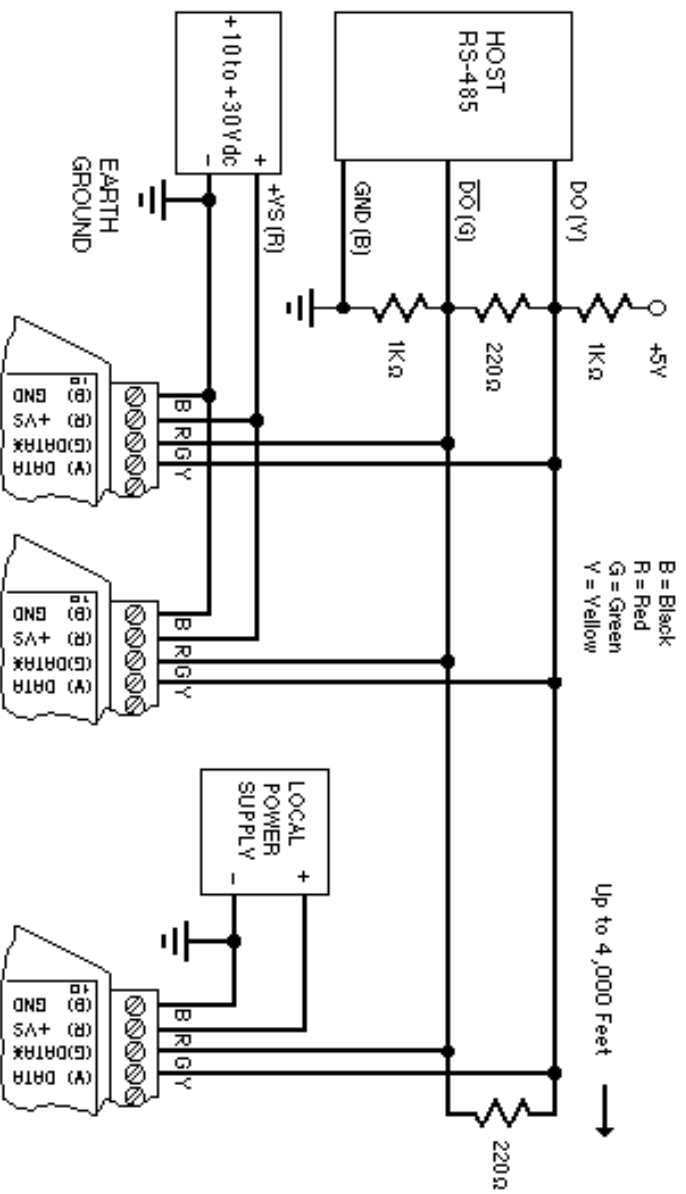

Figure 3.2 RS-485 Network.
Figure 3.2 illustrates the wiring required for multiple-module RS-485 system. Notice that every module has a direct connection to the host system. Any number of modules may be unplugged without affecting the remaining modules. Each module must be setup with a unique address and the addresses can be in any order. All RS-485 modules must be setup for no echo to avoid bus conflicts (see Setup). Also note that the connector pins on each module are labelled with notations (B), (R), (G), and (Y). This designates the colors used on standard 4-wire telephone cable:
of time when all stations on the line are in receive mode. During this time, the communications lines are left floating and are very susceptible to noise. To prevent the generation of random characters, the lines should be biased in a MARK condition as shown in Figure 3.2. The 1K resistors are used to keep the DATA line more positive than the DATA\* line when none of the RS-485 transmitters are on. When enabled, the low impedance of an RS-485 driver easily overcomes the load presented by the resistors.